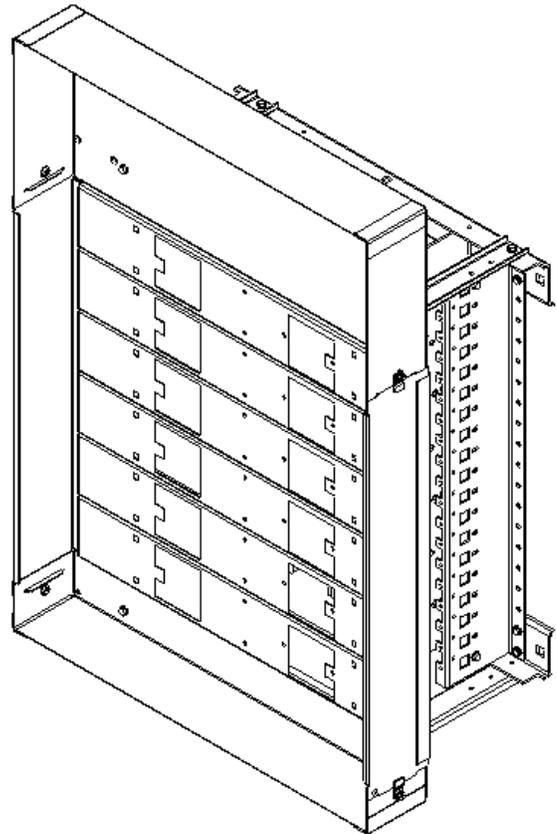
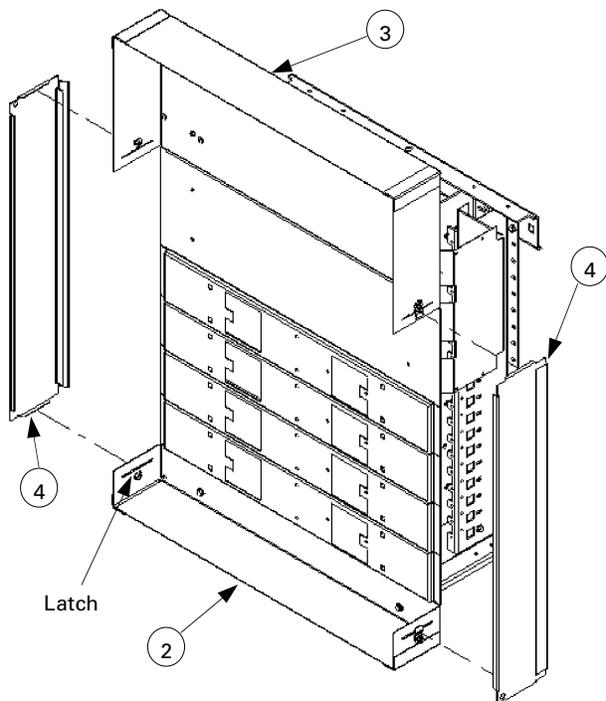

Figure 9. Completed dead front assembly.
Figure 8. Installing the dead front side panels to the line and load ends.
3. Turn the latches on the ends of the dead front line end [3] and load end [2] so that the slot openings are clear. Align the flanges on the dead front end side panels [4] into the slots on the ends, as shown in Figure 8. Turn the latches a quarter turn to secure the end panels. Figure 9 shows the completed dead front assembly.